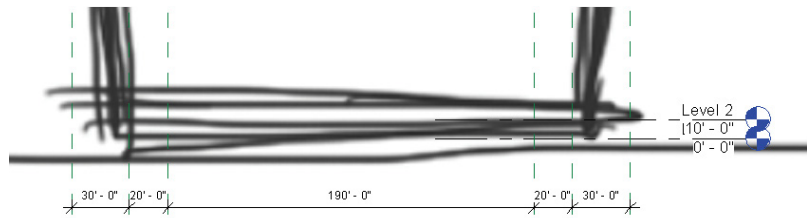

FIGURE 7.7 Dimensioned reference planes
5. The dimensions are not round numbers, so you'll change that. Click the second reference plane; then click the blue dimension between the first and second reference planes, and type in 30. Now select the third reference plane, click the blue dimension between the third and second, and type in 20. Follow the same steps with the other reference planes to achieve the result in Figure 7.7.